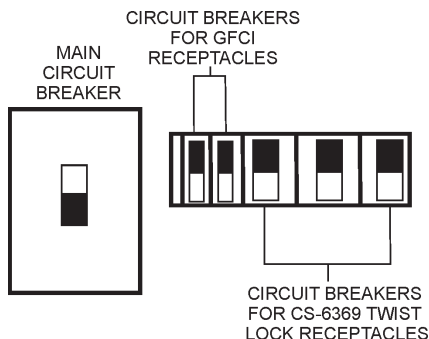

Figure 69. Main, Aux. and GFCI Circuit Breakers (OFF)
1. Place both the **MAIN**, **GFCI** and **LOAD** circuit breakers (Figure 69) to the "OFF" position".